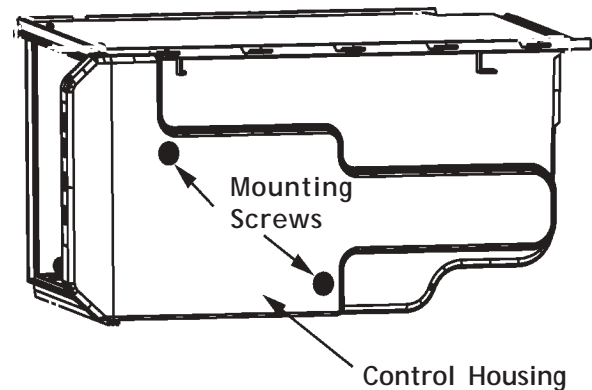

Figure 2-2
6. Remove two control housing mounting screws, *See Figure 2-2*. Remove the control housing.